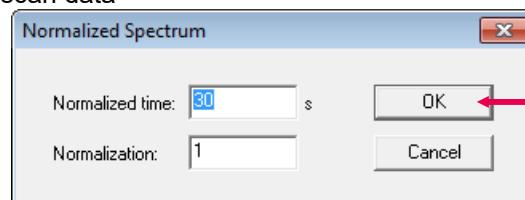

Fig. 5-86
- (2) Click the (Normalized Spectrum) button. (Refer to ① in Fig. 5-85.) Enter the Normalized WL and Normalization and click the OK button. (Refer to ② in Fig. 5-86.)